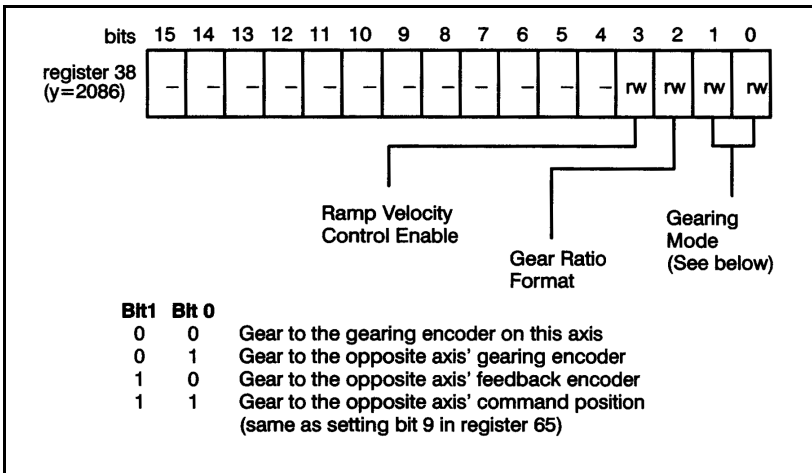

Figure 4.28 – Gearing Mode, Ratio Format, and Ramp Velocity Control Register
Register 38 is used to determine gearing mode if bit 9 in register 65 is not set (0), to select the gear ratio format, and to enable ramp velocity control. Note that changes to registers 38 will be ignored while gearing mode is enabled in register 65. See figure 4.28.